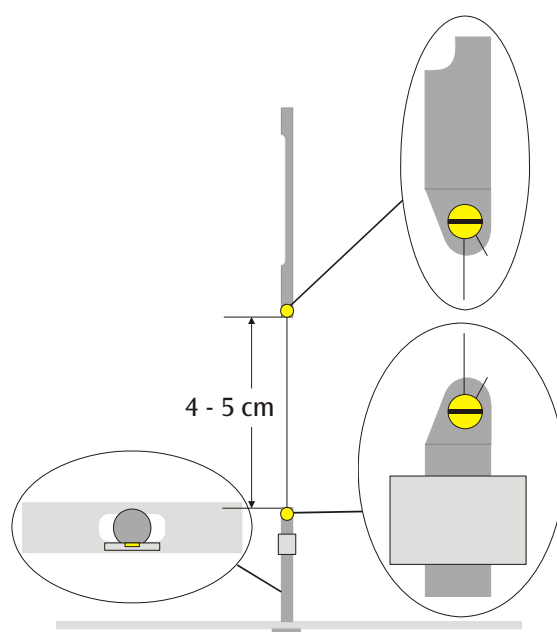

Fig. 3 Schematic diagram of torsional pendulum (the detail on the left shows a view from above of the support beam with the lower suspension rod)
- Screw in the lower suspension rod in the middle of the inner support beam, taking care that the surface of the mirror remains parallel to the support beam (see Fig. 3).
- Fix the end of the wire to the paper next to the upper suspension rod using a strip of adhesive tape. Now wrap the wire around the fixing screw and screw it in till it is tight, taking care to ensure the wire does not get kinked. As far as possible, the wire should run between the central axes of the two suspension rods (see Fig. 3).